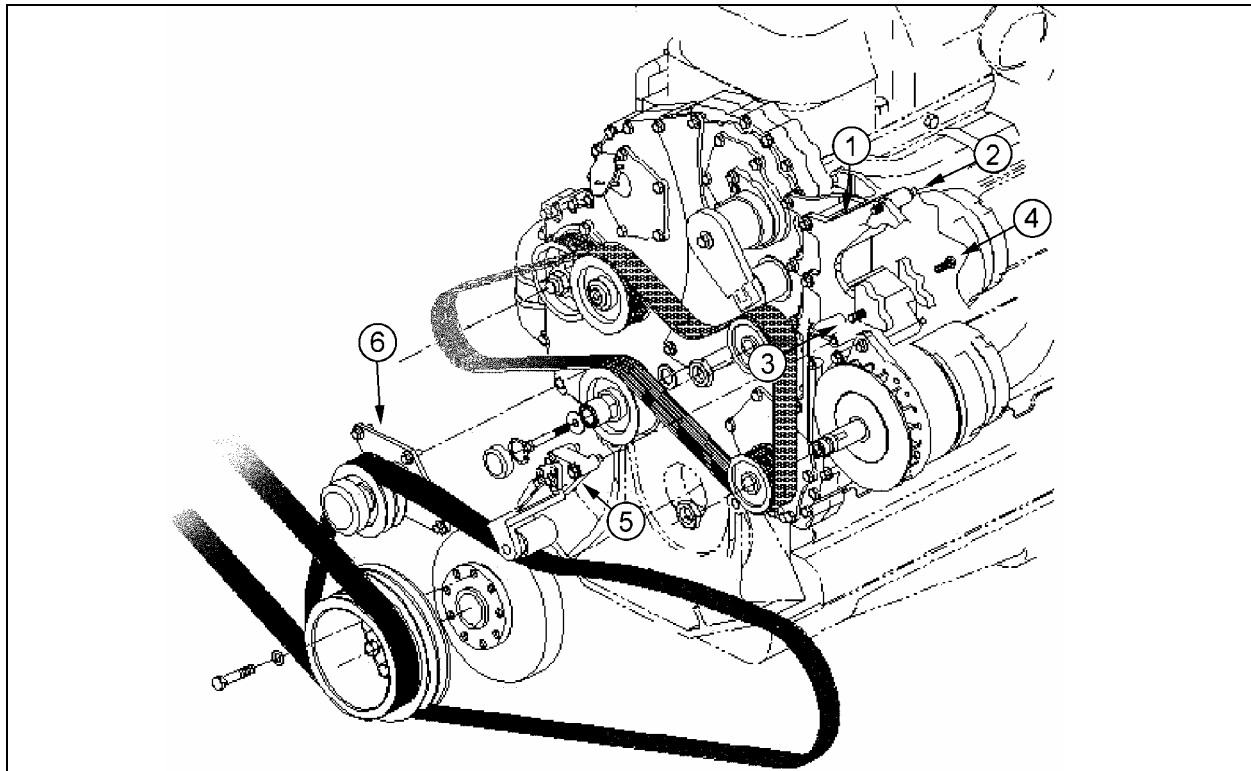

FIGURE 17: TWIN BOSCH ALTERNATORS INSTALLATION
If the alternators needed to be removed, reinstall as follows. Refer to Figure 17 for installation and to figure 14 for tightening specifications:
1. Install alternator mounting bracket (1, Figure 17) to the gear case. Use the four flanged phosphor alloy bolts on the pulley end of the
2. Bolt the alternators to the bracket using the three inch bolt at the top of the upper alternator (2, Figure 17) and flanged bolts at the other mounting bosses (3 and 4, Figure 17). Tighten the bolts in the sliding sleeves (4, Figure 17) last as they will adjust to prevent breaking the alternator mounting bosses upon final tightening. Repeat for the second alternator;
4. Install the snubber bracket (5, Figure 17) using three flanged bolts. Do not tighten the adjustment bolts on the snubber until after final tightening;
5. Install the compressor belt idler pulley (6, Figure 17) as shown. A stud inserts into one of the mounting holes of the pulley assembly. Fasten this one using a nut and bolts for the other two.